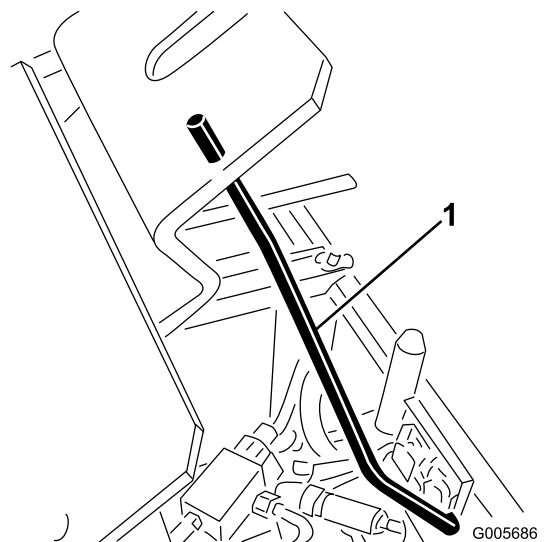

Figure 10
4. Hold seat up with seat support rod (Figure 10).
- 6. Hold seat up with seat support rod (Figure 10).